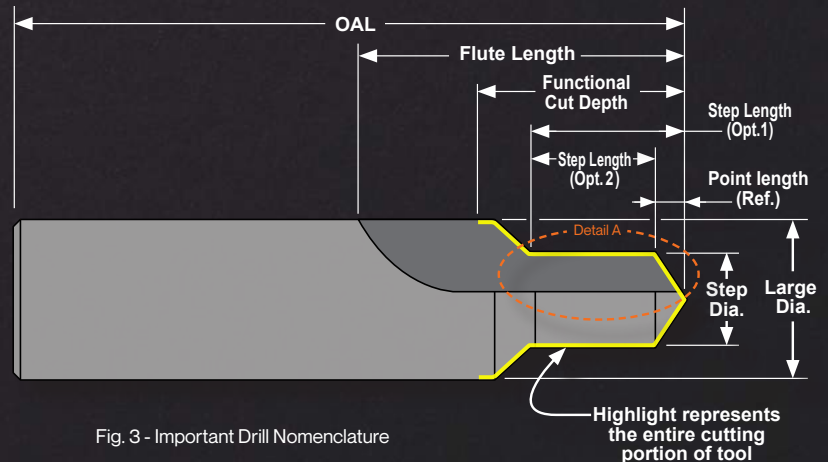

Fig. 3 - Important Drill Nomenclature
Some Important Measurements - Since we produce a large number of step drills for our clients, we felt it would be prudent to address several crucial issues related to our tools and drilling in general. Let's start by discussing the metrics and how they vary from end mills measurements (Fig.3).
- **Cutting Depth** - The length of the cut and the functional cut depth are usually considered to be equal. This is the area that the tool is cutting, and it is properly marked (Yellow in this example, bold on our prints) on all of our prints (similar to Fig. 3). The tool has a designed cutting edge. We ask that you specify exactly what dimensions, angles, and edges you intend to be cutting on any unique tool quote requests you make.